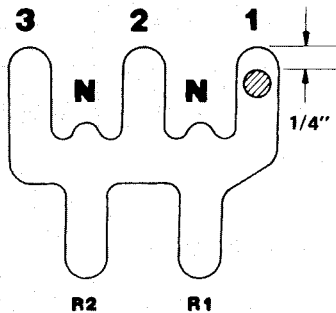

Figure 5
1. Move wheel drive control into No. 1, 1st gear. Position control lever so its front surface is 1/4 of an inch (6 mm) from bottom of slot (Fig. 5); then hold lever in this position.